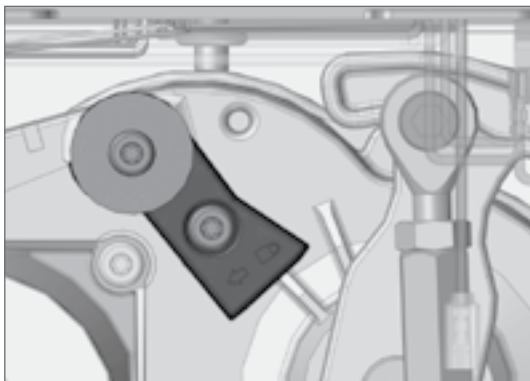

FIGURE 57. LOCK MODE POSITION (TOP)
- For a right-hand boom to be placed in Lock Mode in the lowered position, position the top stopper as shown in Figure 57 (similarly for the left-hand raised locked position)